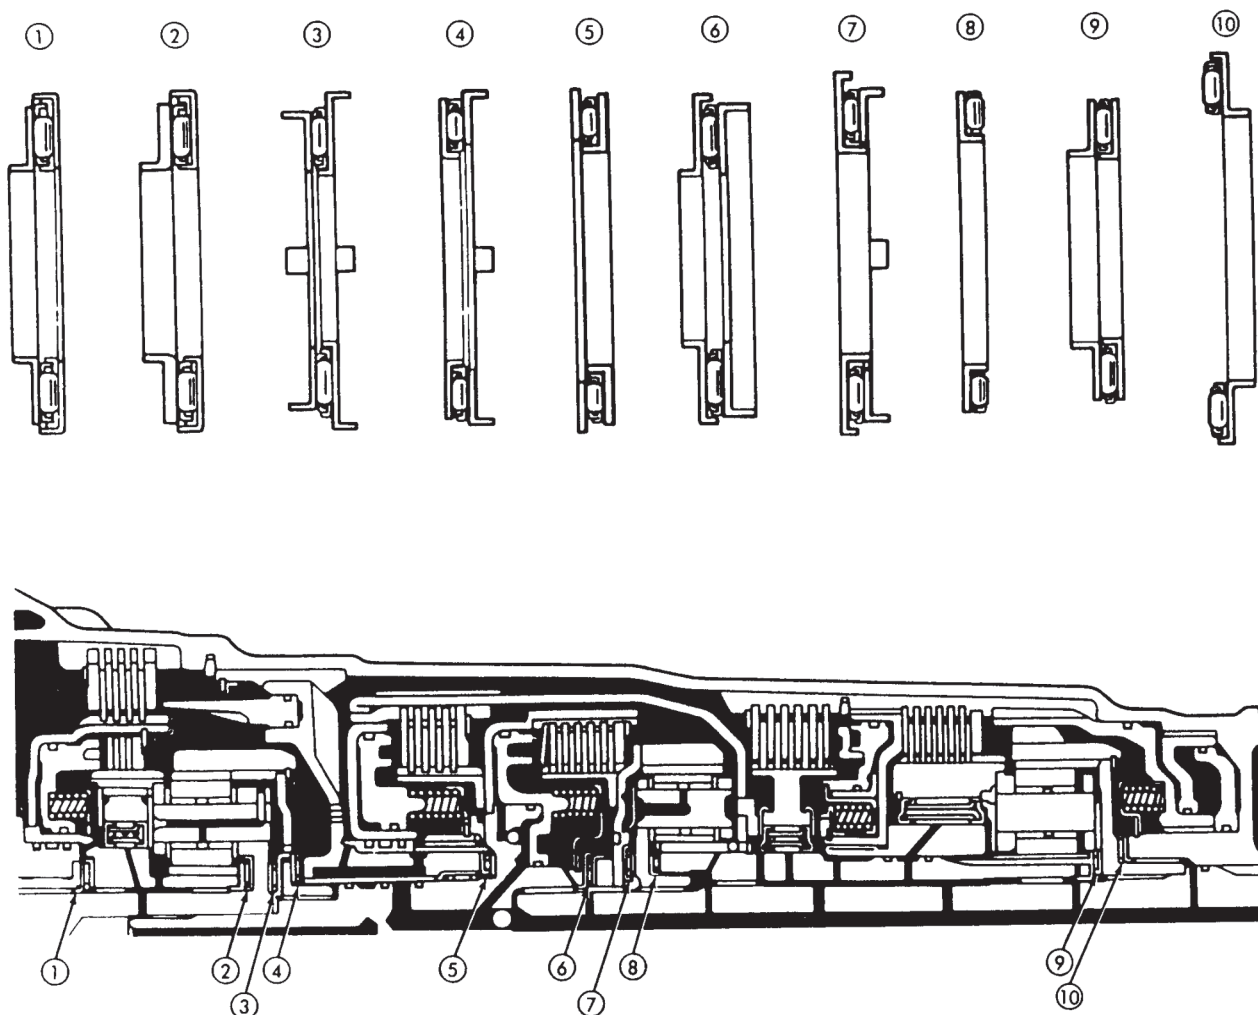

Fig. 2 Thrust Bearing Chart
(1) During assembly, lubricate components with transmission fluid or petroleum jelly as indicated.
(2) If any of the transmission components are still assembled after overhaul checking procedures, disassemble as necessary in preparation for transmission assembly.
(3) Verify thrust bearing and race installation during assembly. Refer to the Thrust Bearing Chart (Fig. 2) for bearing and race location and correct positioning.
(4) Install rear planetary gear, second brake drum and output shaft as outlined in following steps: